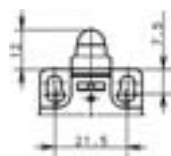

Fig. 1
- Fixed – Two holes for M 5 screws for safety applications without additional fixings (fig. 1)